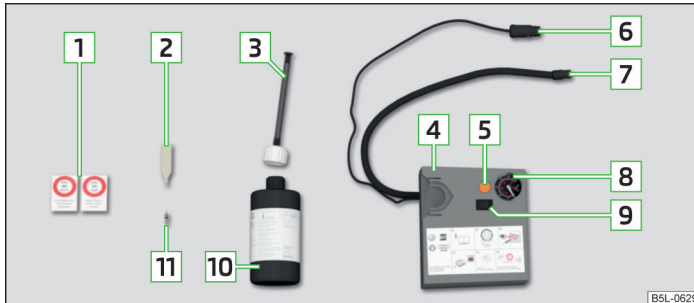

Fig. 178 Principle sketch: Components of the breakdown kit
Components of the breakdown kit » Fig. 178.
- Stick the sticker **1** » Fig. 178 on page 225 onto the dash panel in the driver's line of vision.
- Forcefully shake the tyre inflator bottle  » Fig. 178 on page 225 several times.
- Screw the air compressor tyre inflation hose  » Fig. 178 on page 225 firmly onto the tyre valve.